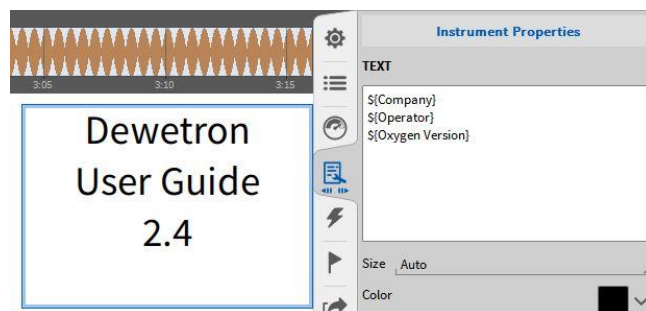

Figure 4-21: Adding the Header Description in a Text Box
- Create a Text Box and type in the Header Data Name according to the following syntax: $\${Header\ Data\ Name}$ and the Header Data Description will show up in the Text Box (see Figure 4-21).